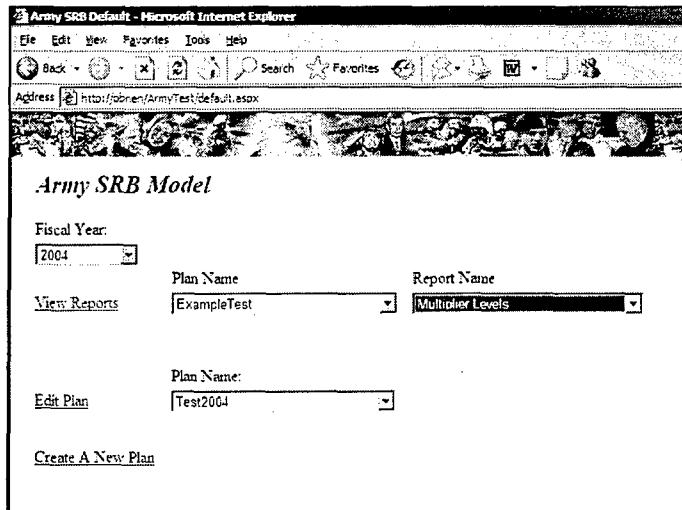

Figure 48. Select Multiplier Levels Report
- Select an SRB Plan from the Plan Name dropdown box to the right of the View Reports link. Choose the Multiplier Levels report from the Report Name Dropdown box (see Figure 48).